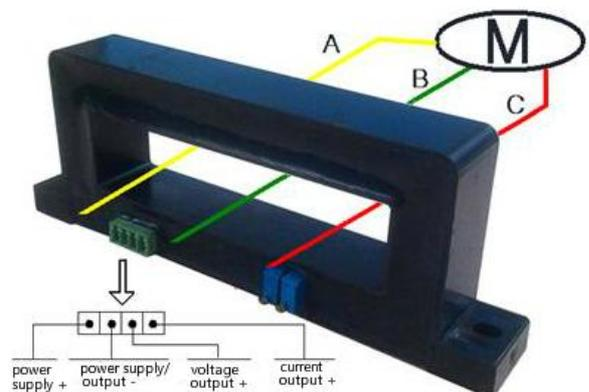

Figure 3, Product wiring diagram (Note: example. measure the three-phase motor load of zero sequence current as an example.)
- ①5 mm diameter hole in the fixed plate according to the $\Phi 5$ screw hole position shown in Fig. 3;
- ②Use the screw smaller than $\Phi 3$ to insert into hole to secure it.